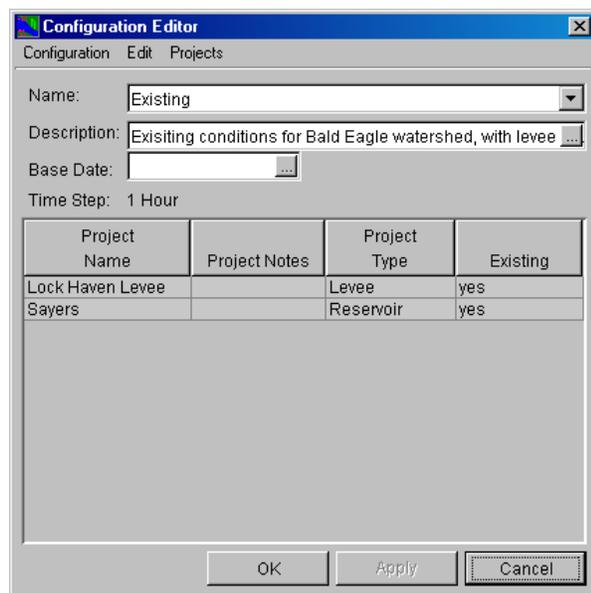

Figure 7.1 Configuration Editor
2. From the **Watershed Configuration Editor**, click **Configuration Editor**. The **Configuration Editor** (Figure 7.1) will open.
1. On the **Configuration Editor** (see Figure 7.1), from the **Name** list, select a configuration that you wish to copy.
1. On the **Configuration Editor** (see Figure 7.1), from the **Name** list, select the Configuration that you want to delete.